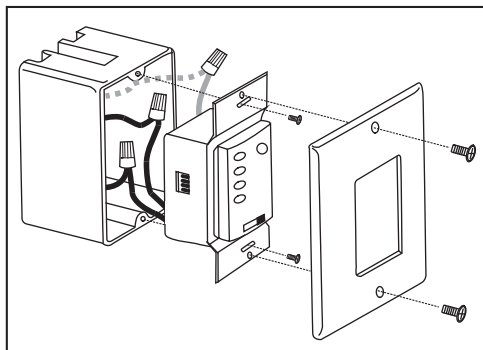

Figure 14
3. (Fig. 14) Carefully tuck the wire connections inside the junction box. Secure the wall transmitter with the two screws provided. Attach the wall plate over the wall transmitter and secure with the two screws provided.